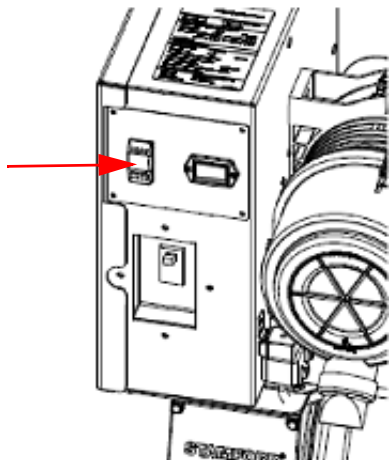

Figure 4-2 GenSet control switch
2. As shown in Figure 4-2, press the control switch **UP (Manual Run)** to initiate the GenSet start sequence. The control switch should remain in the **UP** position until the operator chooses to stop the GenSet.